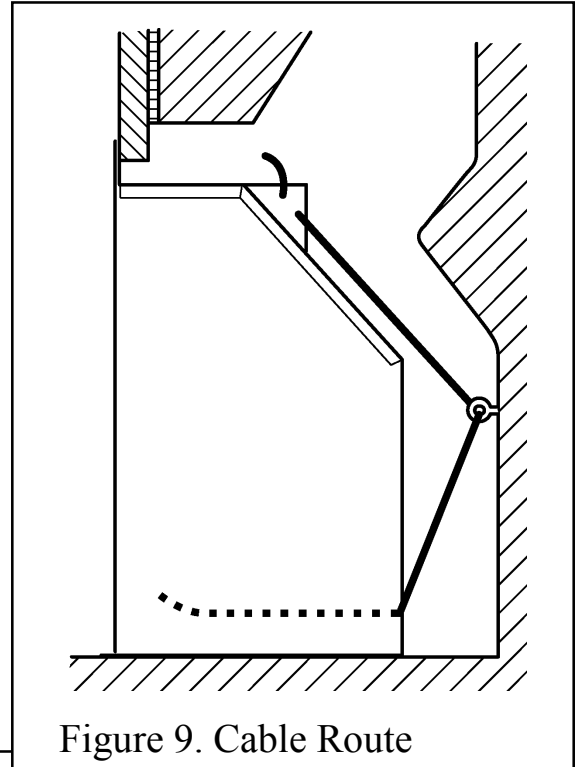

Figure 9. Cable Route
6. Thread the cables through the eyebolts. Return the cables through the holes near the bottom of the convector box back panel, and through the "V" shaped brackets near the bottom front sides of the convector box - See figure 9.